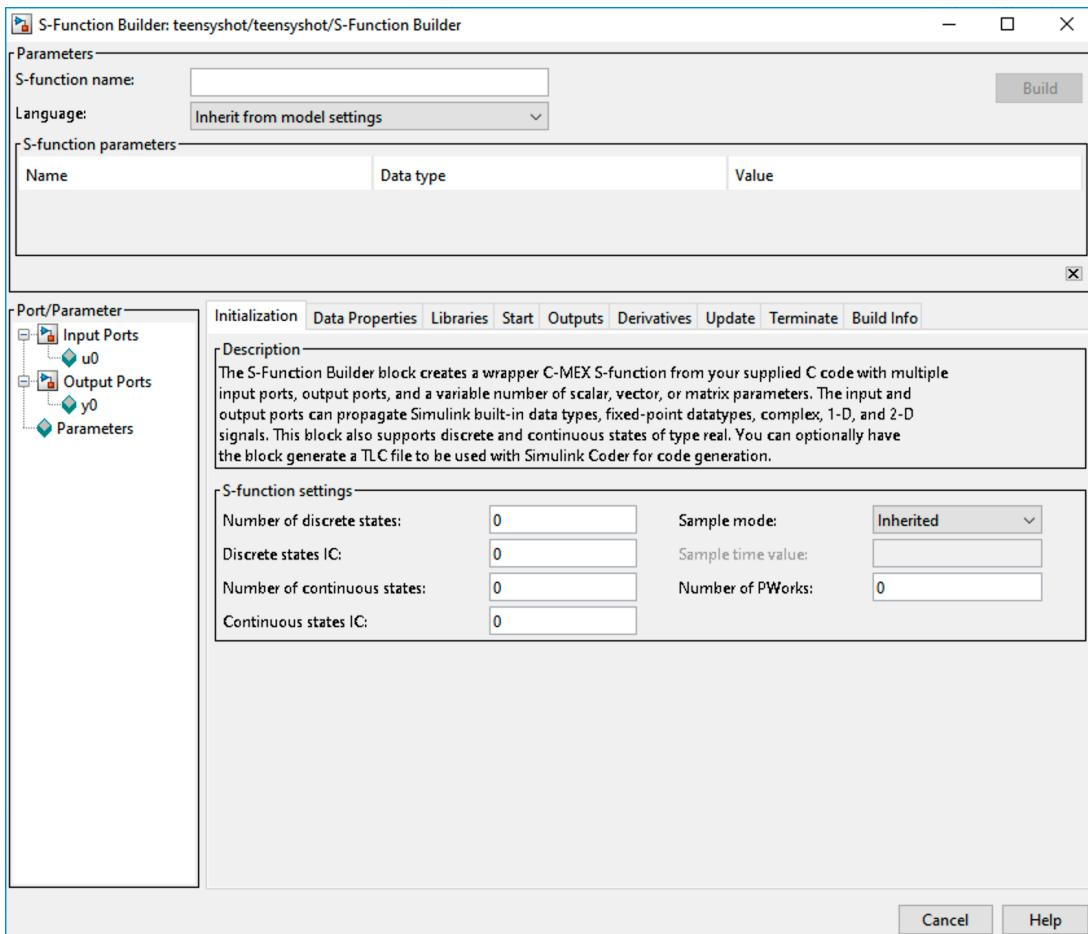

Figure 1 — S-Function Builder
2. Drag in this document an S-Function Builder block and double-click it (Fig. 1).